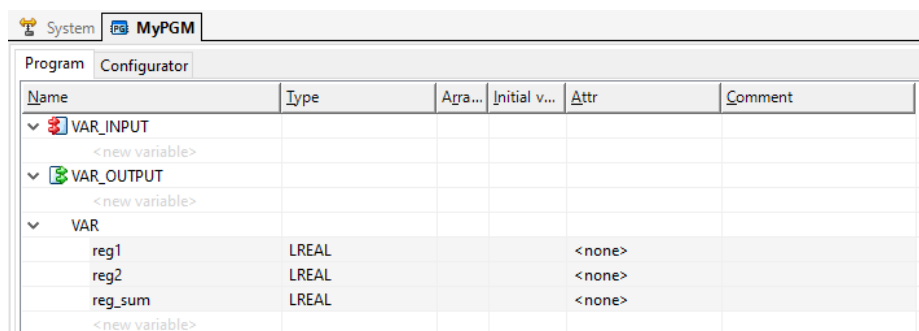

Figure 44: VAR list in the program CAT.
- Change to the **Program** tab. The created PLC data points show up in the VAR list as shown in Figure 44.